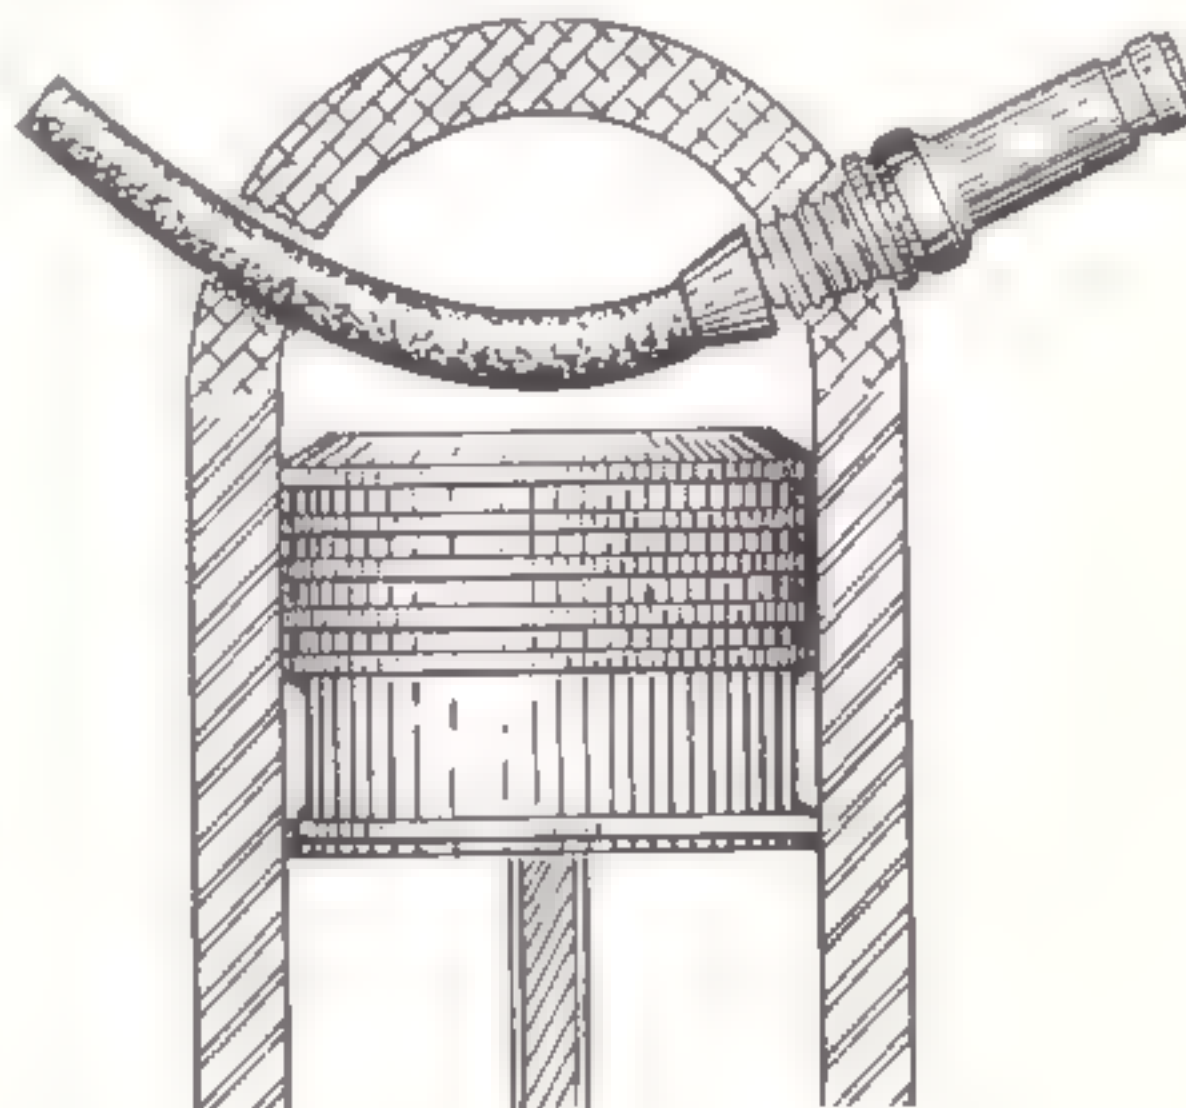

Figure 5-74. Removal of seized spark plug
(1) Insert a tube from opposite spark plug insert and apply carbon dioxide (CO_2) on seized spark plug. This will cool spark plug and cause contraction at bottom threads so that spark plug may be easily broken loose with a suitable spark plug wrench. (See figure 5-74.)